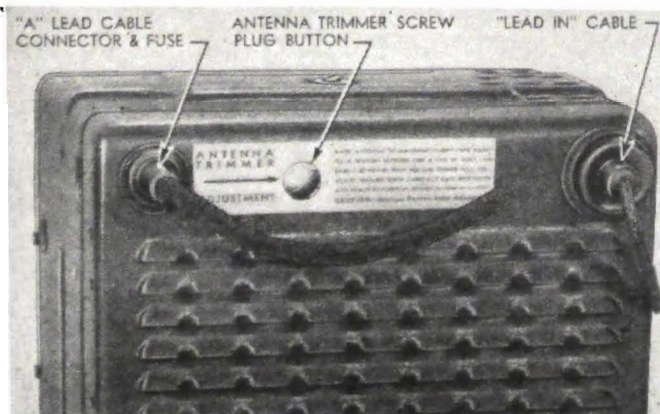
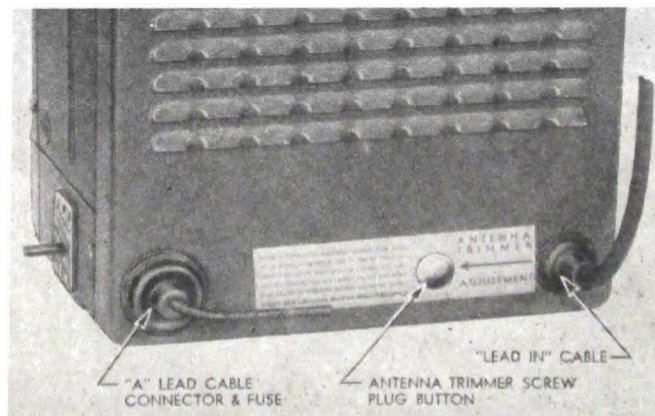

Fig. 12-111. Antenna Trimmer Screw Location—Series 50-70
Fig. 12-113. Antenna Trimmer Screw Location—Series 40-60-90
- Fig. 12-113 shows the location of the fuse and the bayonet connection of the "A" lead and "lead-in" connection for Series 40-60-90 Radio. See Fig. 12-111 for Series 50-70.
- After the installation of both antenna and receiver has been completed, the antenna coil in the receiver should be matched to the car antenna. This is done by adjusting the antenna trimmer screw. (See Figs. 12-111 and 12-113.)